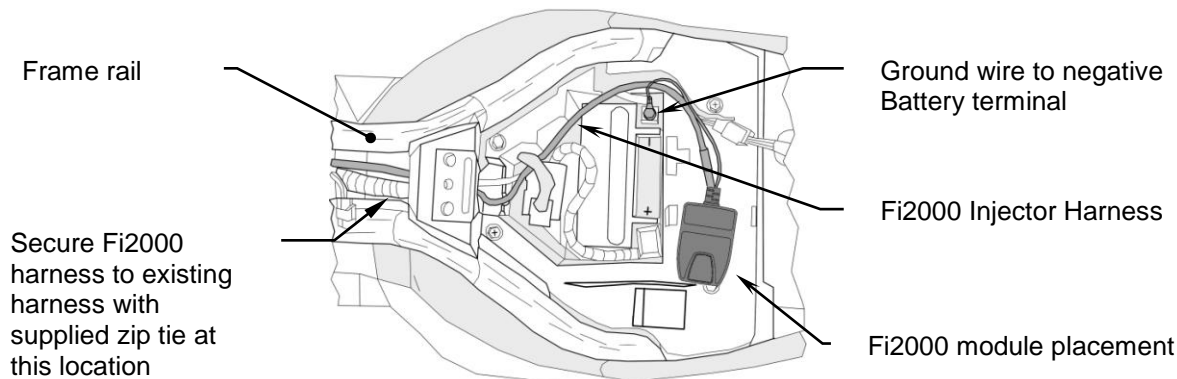
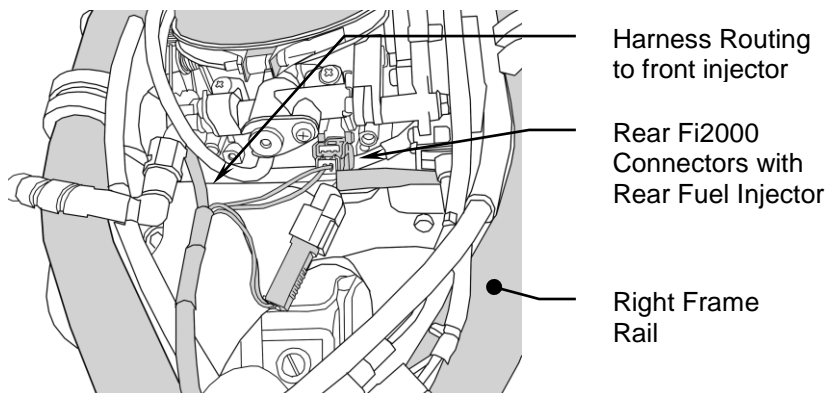

FIGURE 1
FIGURE 3
2. Temporarily position the Fi2000 module by the battery, and route the wire harness forward into the notch in plastic cover, see Figure 1. Continue routing the harness under the frame at the rear of the fuel tank, and continue it up past the left side of the throttle body assembly.
5. Locate the rear injector on the throttle body housing disconnect it and mate the corresponding male connector from the rear portion of the Fi2000 harness to it, see Figure 3. Mate the Female Fi2000 connector onto the injector. When finished, make sure the wire harness does not foul any throttle cable linkage. Install the zip tie to secure the harness as shown in Figure 1. Reinstall the fuel tank by reconnecting the brown four-pin connector and dry brake fuel line to the fuel tank.
6. Connect the Fi2000 ground wire (black), to the negative post of the battery and attach the Fi2000 module to the top of the plastic panel with the supplied Velcro, see Figure 1. Before reinstalling the seats verify all connections are made properly.